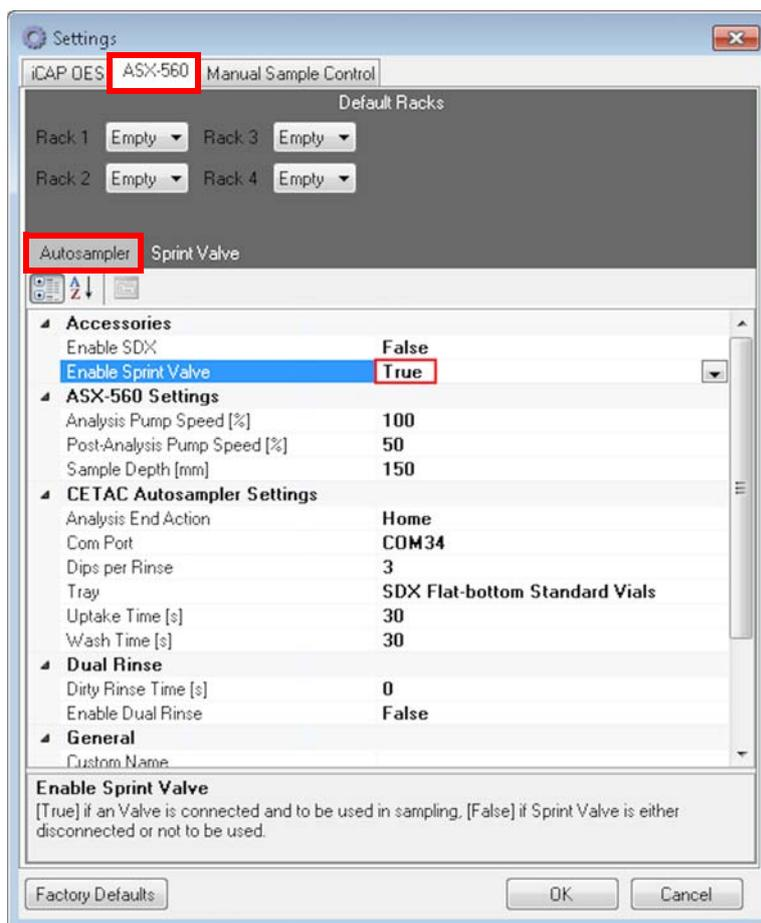
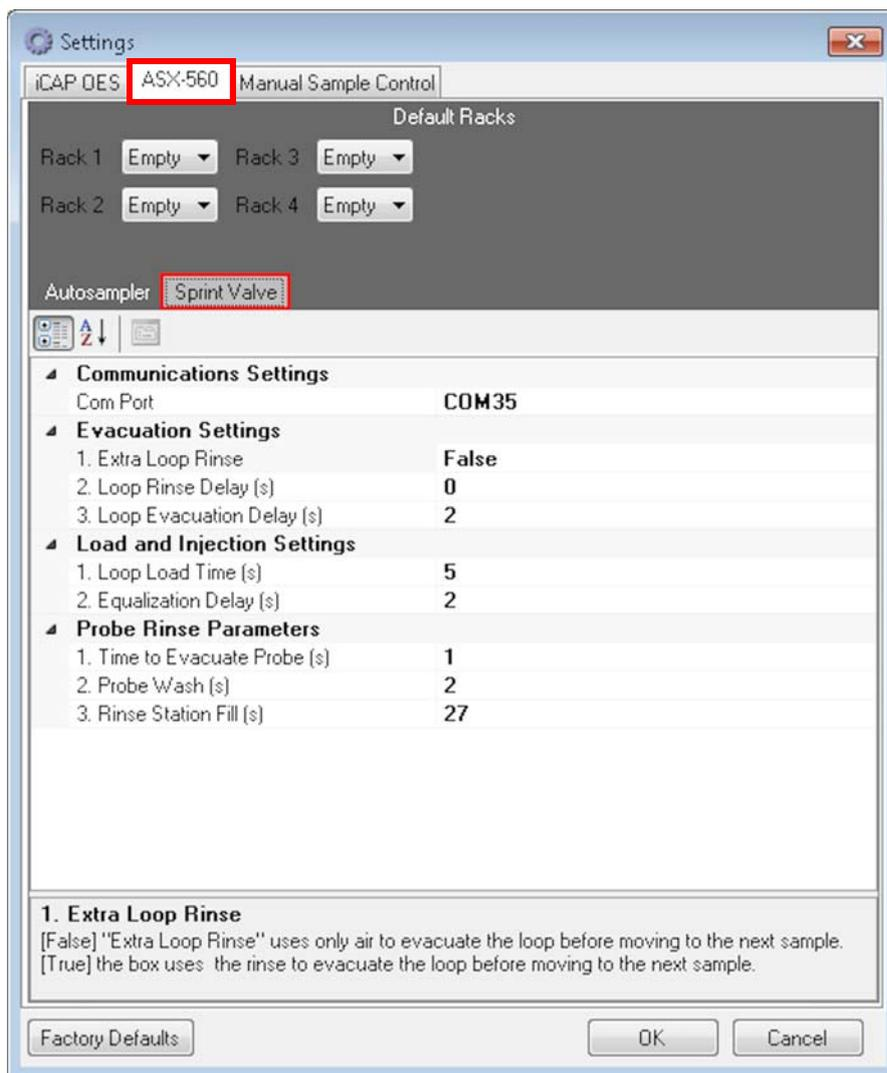

Figure A-11. Enabling Sprint Valve in autosampler plugin
Figure A-12. Setting up Sprint Valve parameters in autosampler plugin
The configuration of the Sprint Valve is performed in the Qtegra Configurator in the autosampler plugin. This configuration is not required to be changed to operate the Sprint Valve on a day-to-day basis. It is rather used to enable or disable the Sprint Valve and to set up and change the valve settings. See Figure A-11 and Figure A-12.
1. Enable Sprint Valve in the autosampler plugin in the configuration. See Figure A-11.
3. Select and modify the required settings. See Figure A-12 and Table A-1.